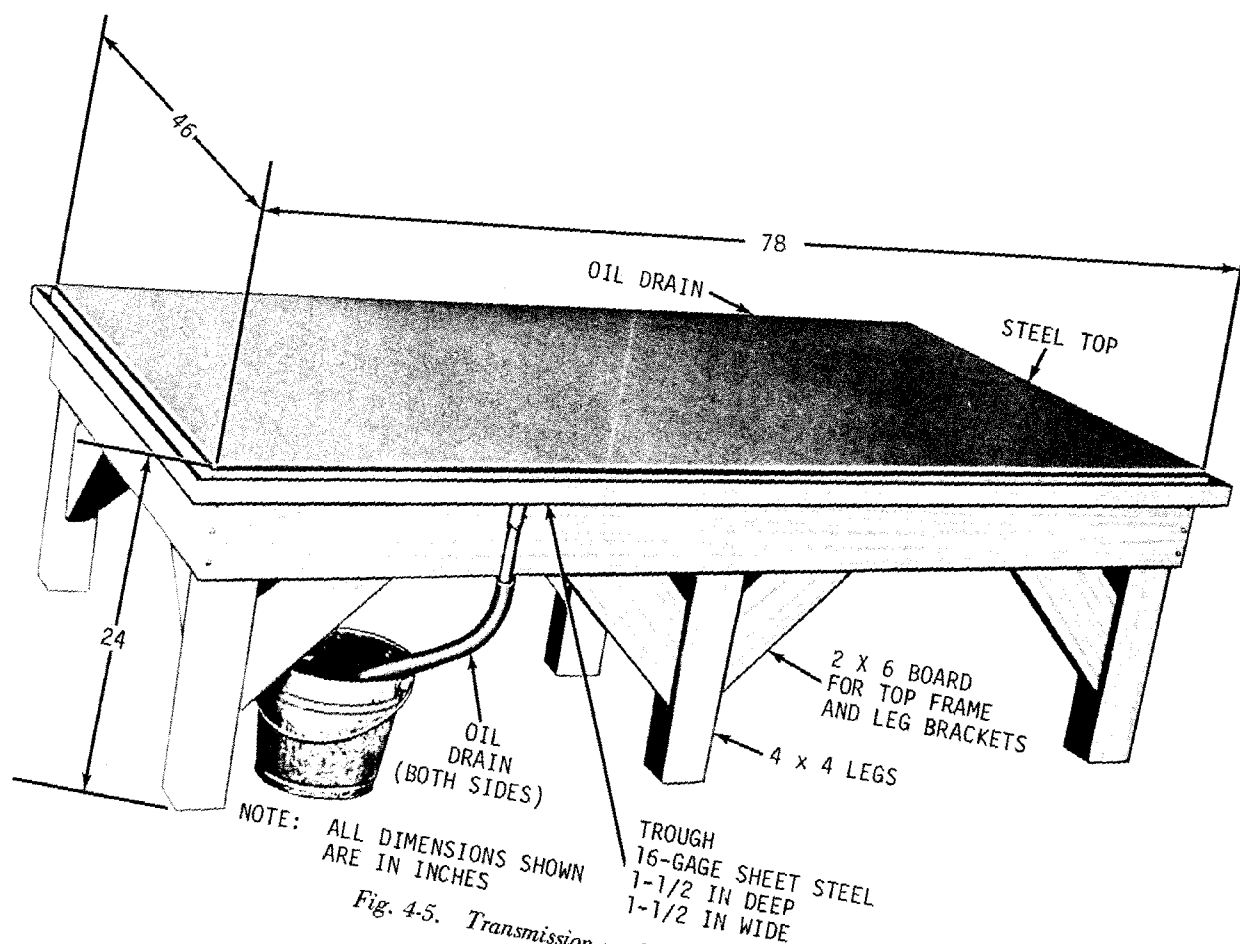

Fig. 4-5. Transmission work table
- Suitable disassembly and assembly table (fig. 4-5)